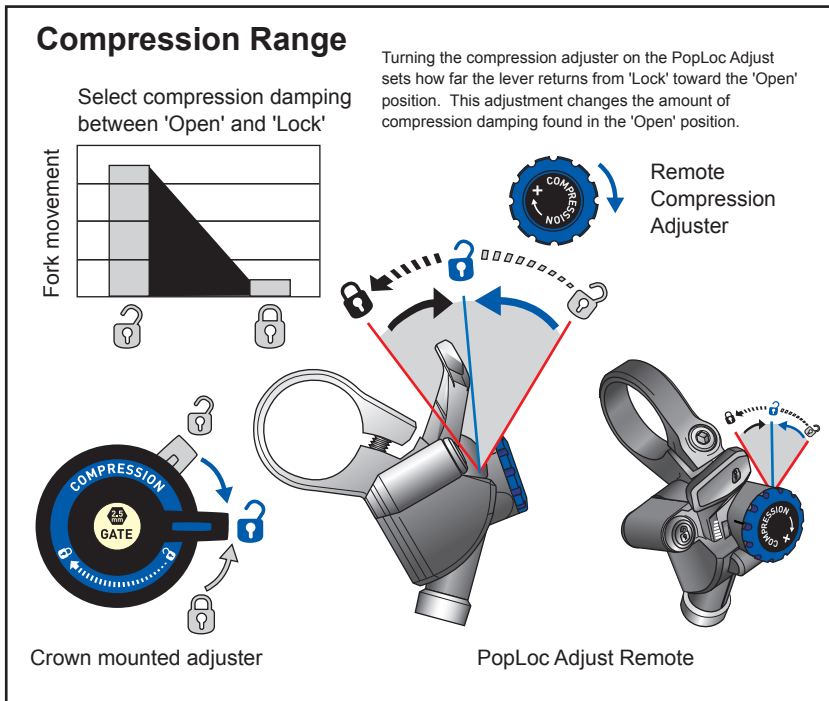

Fig. 4
**COMPRESSION ADJUSTMENT (FIG. 4)**